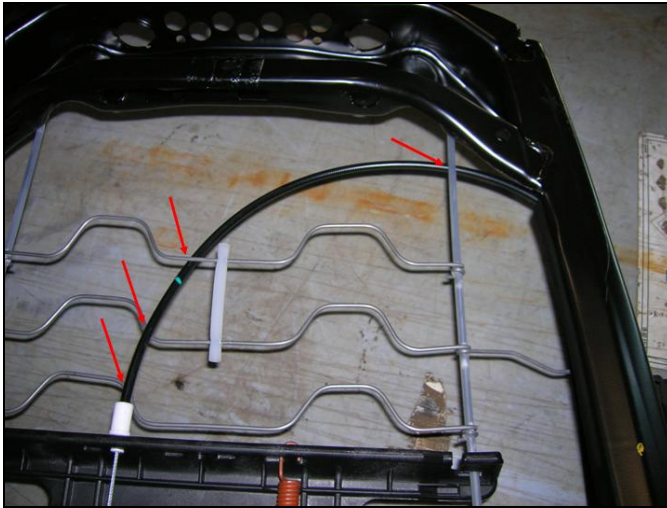

Figure 18 S-B-91.10/112e
1. Remove seat-back lining Refer to WIS document AR91.10-P-1915GZ (164) and AR91.10-P-1915RT (251).
2. With a load on the backrest (e.g. a person sitting in the seat), adjust the manual lumbar support and determine the points at which the Bowden cable rubs against the spring core (possible locations illustrated in Figure 18).